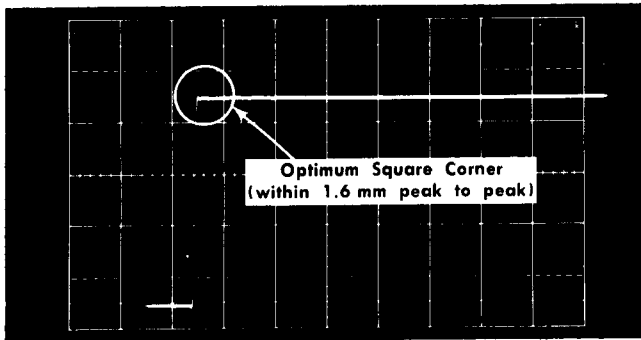

Fig. 6-9. Typical CRT display showing correct output-amplifier high-frequency compensation. Sweep rate: $0.1 \mu\text{s/cm}$.
f. Use the oscilloscope Horizontal Position control to position the rising portion of the waveform about 2.5 cm to the right of the 0-cm graticule line. Use the Type 1A4 Channel 4 POSITION control to position the top leading corner of the waveform about 1.5 cm above the graticule horizontal centerline (see Fig. 6-9).
g. CHECK—CRT display for optimum square corner (see Fig. 6-9). Ringing, rounding, overshoot and tilt should be less than 1.6 mm (or 4%) peak to peak when a 4 cm positive-going square wave is displayed.